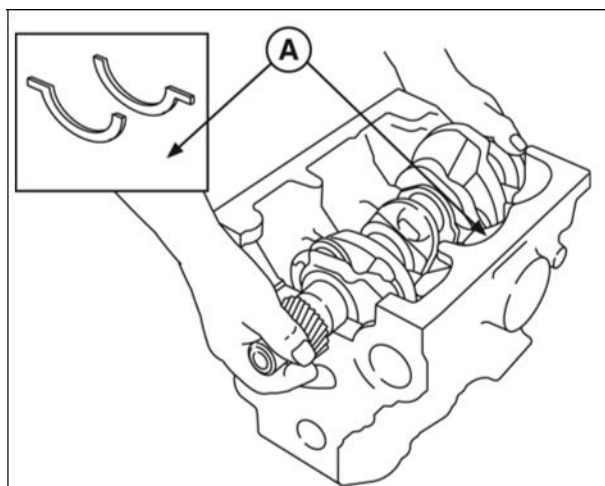

Figure 3
7. Install crankshaft with gear facing front of cylinder block (Figure 3). Take care not to damage journals or bearings.